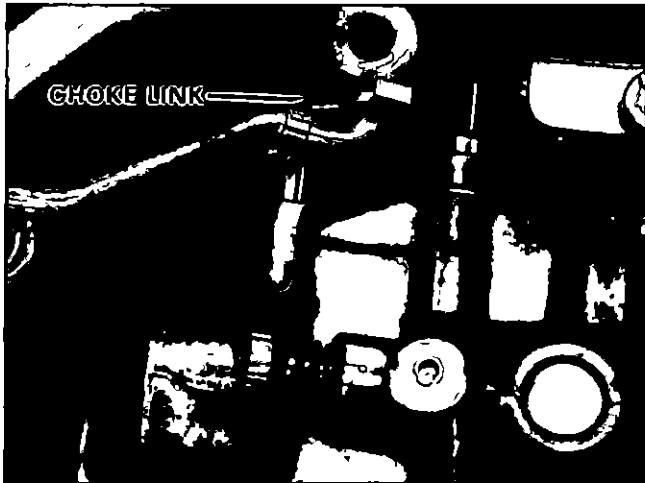

Figure 5 Disconnecting Choke Link from Carburetor.
- 3 Disconnect choke link from carburetor Figure 5